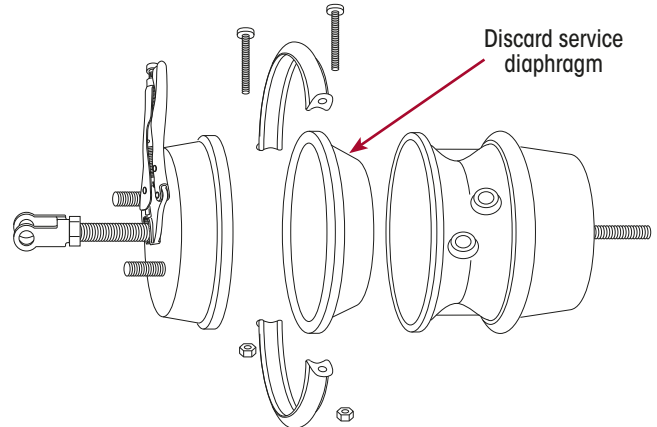

Figure 105: Brake Chamber Disassembly
11. Disassemble brake chamber. Refer Figure 105.